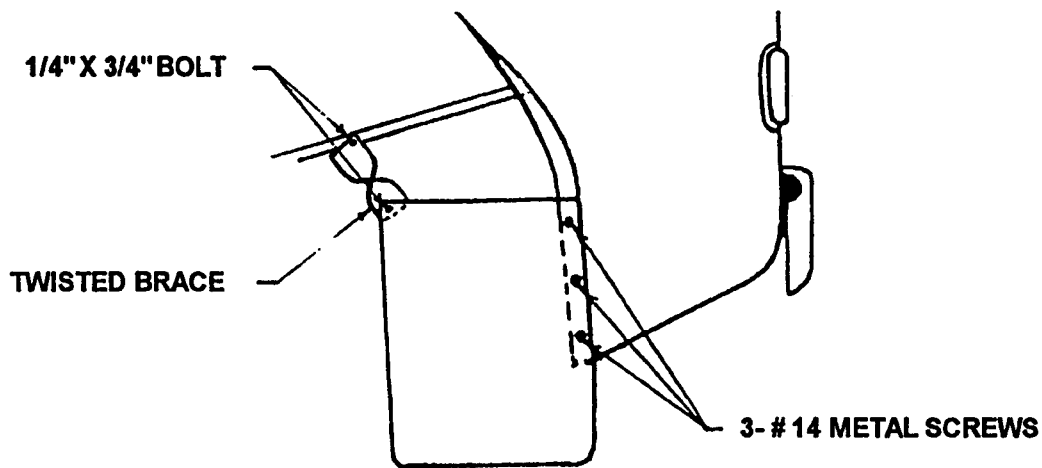

FIGURE 3
- STEP 4:** Using C-clamps or vise grips, clamp flap to the fenderwell flange. Make sure the flap is level and drill three 1/16" holes through flap and fenderwell flange. Then drill three 7/32" holes through flap ONLY and install # 14 metal screws. SEE FIGURE 3.
- STEP 5:** Attach twisted brace to inner fenderwell and flap with head hex bolts, lockwashers and nuts. SEE FIGURE 3.